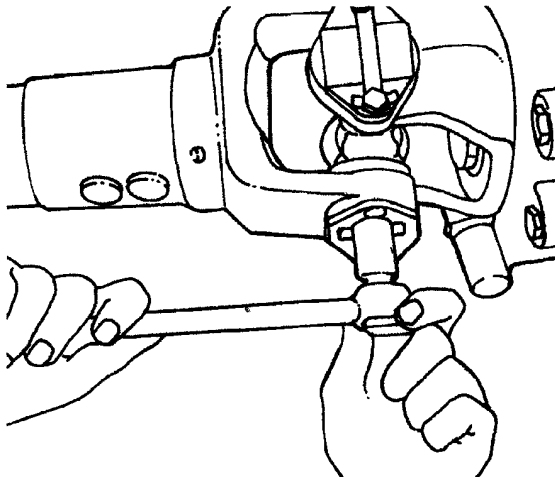

Figure 11 Remove Bolts From Bearing Assemblies Connected to Transmission or Axle End Yoke
5. Remove the four bolts from the two bearing assemblies connected to the transmission or axle end yoke (Figure 11).